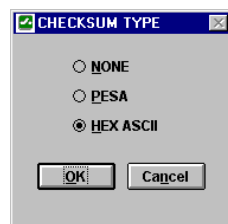

Figure 57 Checksum Type Window
6. Click the **Check Sum** button to open the CHECKSUM TYPE window (Figure 57).